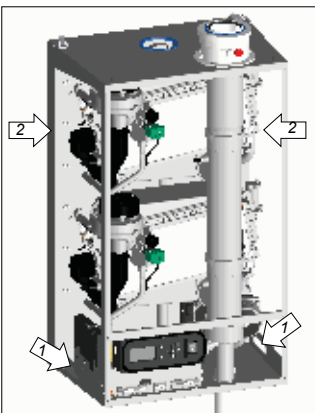

Figure 5.1.d
Lift the boiler only by the special grips on the bottom panel (1) and support the boiler by its rear panel (2). Refer to figure 5.1.d.